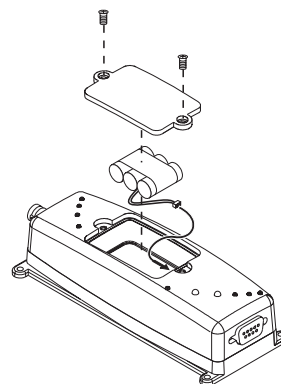

Figure 2. - Battery Installation
4. Locate the two pin jack inside the battery compartment and connect the battery to the CDM-810. (See Figure 2)